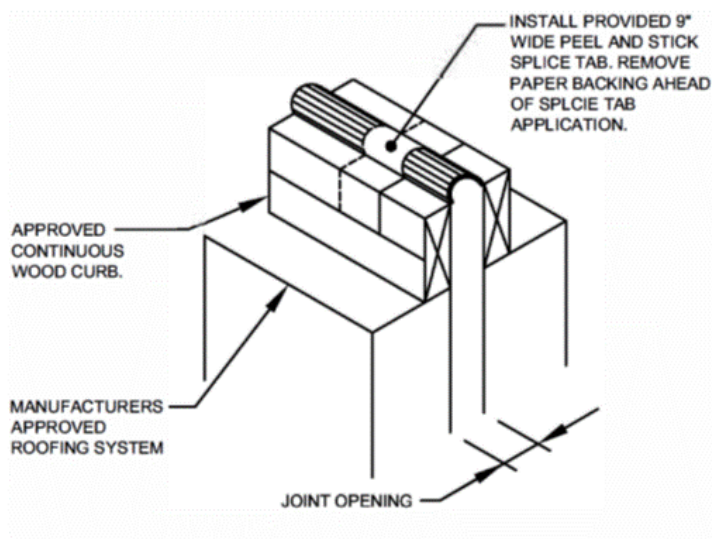

Figure 6
6. Install provided 9" wide peel and stick splice tab. Remove paper backing ahead of splice tab application. Type at each splice location. **See Figure 6**